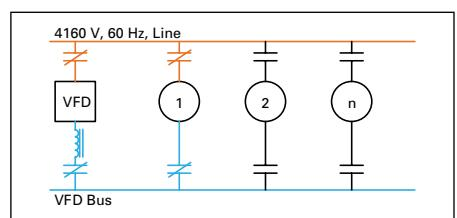

Figure 10.4-19. VFD Synced to Input
- PLC closes motor select (**Figure 10.4-19**)